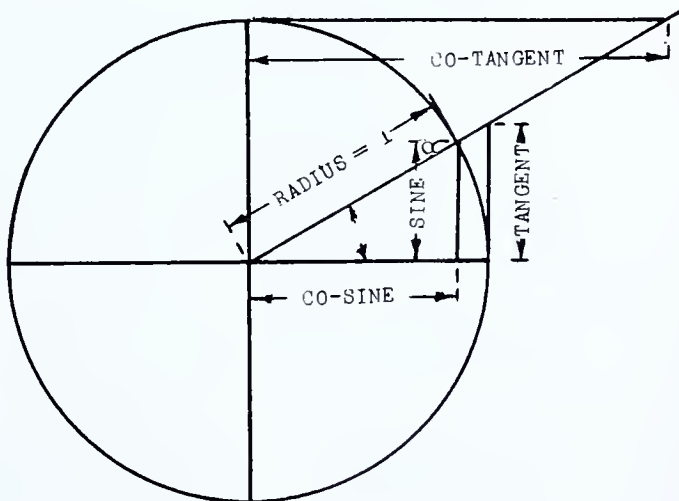

FIG. 255 — *Trigonometric Functions*
**TRIGONOMETRIC FUNCTIONS** — Fig. 255. The ratios or related values involved in the mathematics of solving triangles.